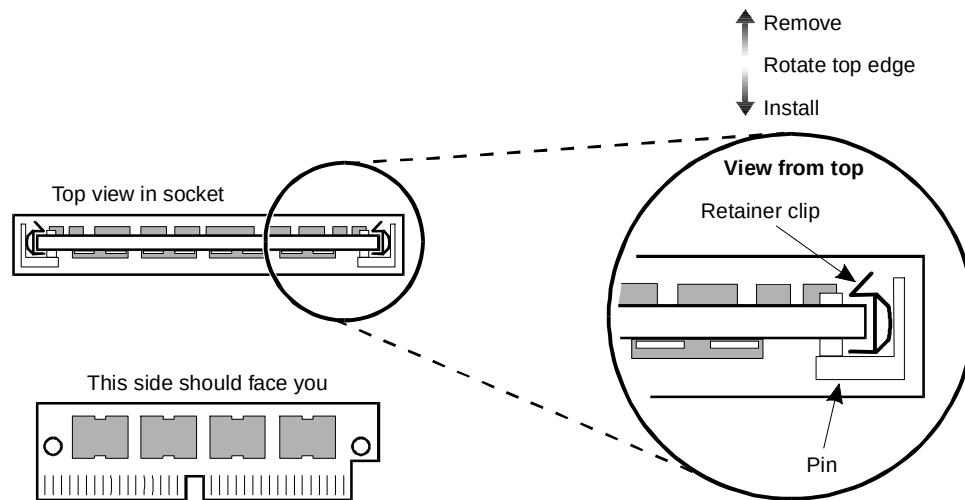

Figure C-2. Removing or Installing Memory SIMMs
8. Ensure the metal snap locks at the edge of the SIMM connectors are indeed locked at the edges of the SIMM. See Figure C-2 below.
9. To remove an existing SIMM, gently release the metal snap locks at the edge of the SIMM connectors. See Figure C-2.